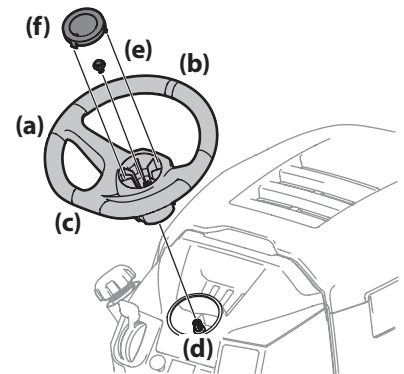

Figure 2-9
1. With the wheels of the tractor pointing straight forward, align the steering wheel (a) by using the center-line (b) on the front of the steering wheel (a) pointing straight ahead and the flat section (c) of the steering wheel (a) facing toward the seat, place the steering wheel (a) over the steering shaft (d). See Figure 2-9.